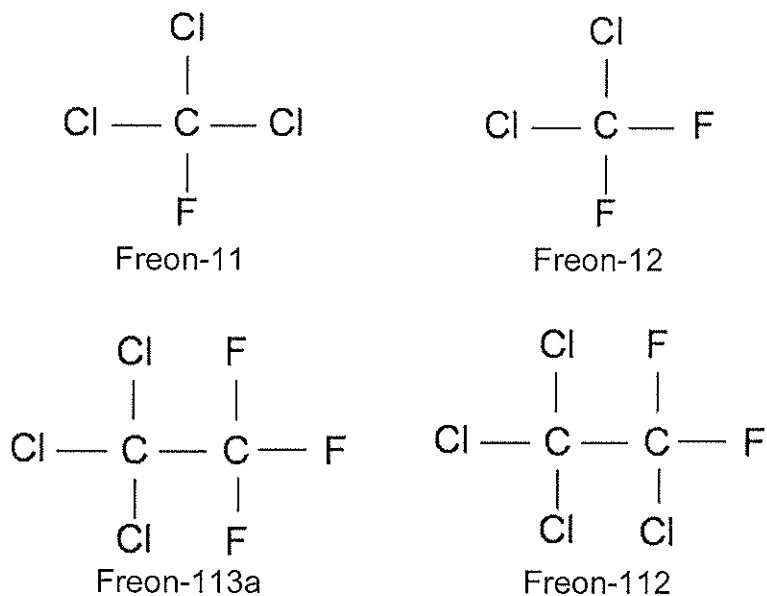

Fig. 6.1
- A6** Chlorofluorocarbons (CFCs) are widely used in refrigerants, aerosol products and as solvents. Fig. 6.1 shows some common CFCs and their industrial names.
Determine the empirical formula of this CFC and use the information provided in Fig. 6.1 to identify this CFC.